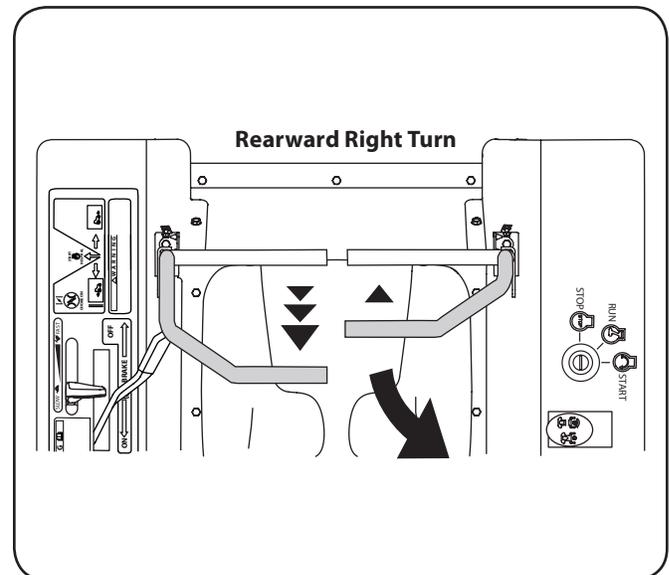

Figure 5-7
2. To turn to the right while traveling in reverse, move the right drive control lever forward of the left lever. See Fig. 5-7.